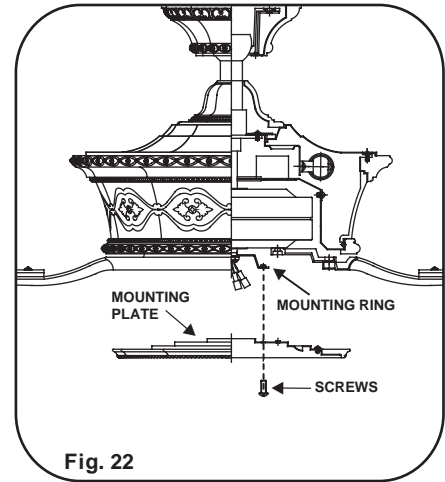

Fig. 22
Step 2. Place the key holes from the mounting plate over the 2 screws previously loosened from the mounting ring, turn mounting plate until it locks in place at the narrow section of the key holes. Secure by tightening the 2 screws previously loosened and the one previously removed. (Fig. 22)